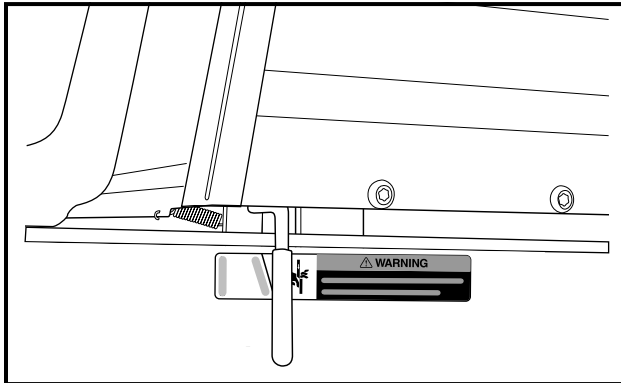
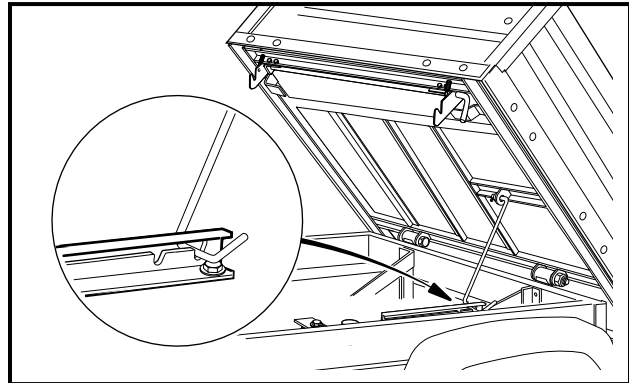

Figure 10 XRT 1200 Bed Latch
Figure 11 XRT 1200 Prop Rod
The bed latch (**Figure 10**) has an automatically engaging prop rod and prop rod track (**Figure 11**) as standard features. To lift the bed, pull the bed latch handle toward the rear of the vehicle and lift the bed. The prop rod will come to rest in one of the notches in the prop rod track. To close the bed, lift the bed so that the prop rod is no longer supported in one of the track notches. Push the prop rod toward the front of the vehicle to free it from the track notch and gently lower the bed. **DO NOT** drop the bed. See following **DANGER**, **WARNING**, and **NOTE**.
**NOTE:** The XRT 1200 vehicle is equipped with an automatically engaging prop rod (**Figure 11**), unless equipped with the electric bed lift accessory.